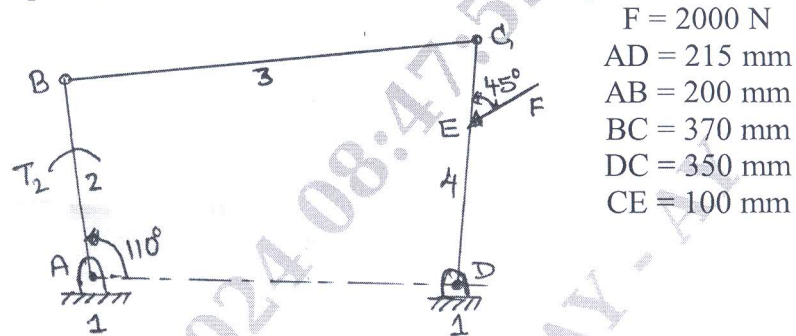

Fig. Q4 (b)
b. A four bar mechanism under the action of External forces is shown in Fig. Q4 (b). Determine the torque T_2 and various forces on links for the equilibrium of the system.